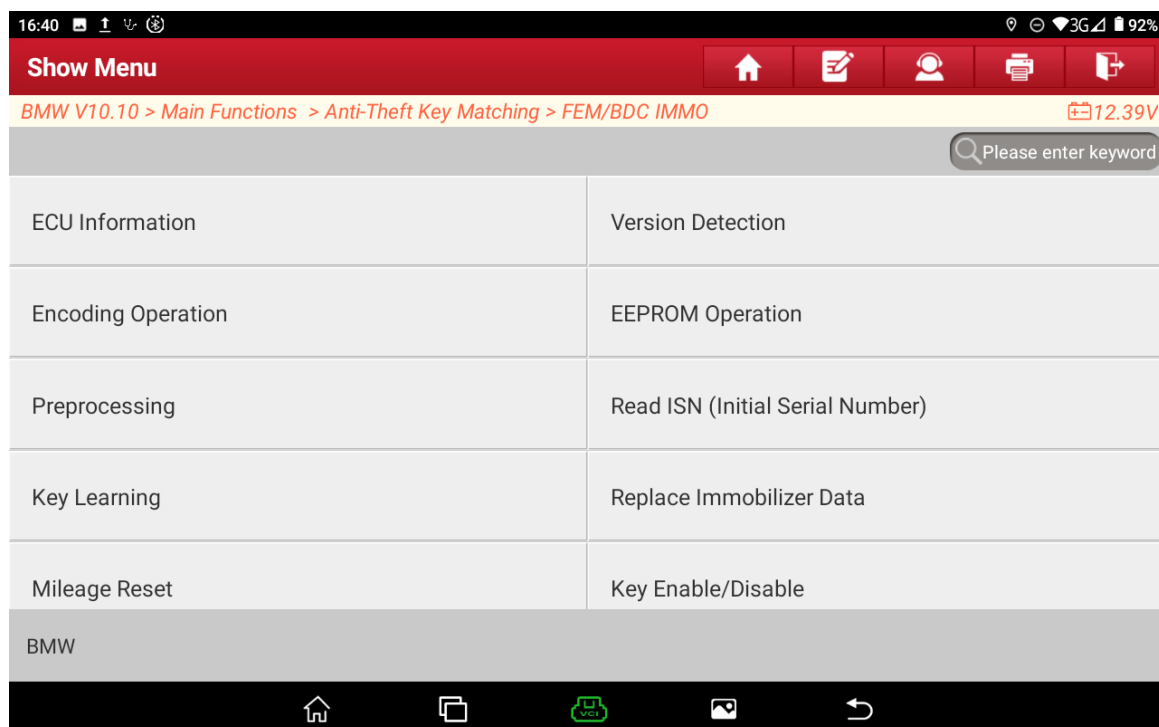

Figure 31
31. Restore the original FEM/BDC data and select **【Encoding Operation】**, as shown in Figure 31.